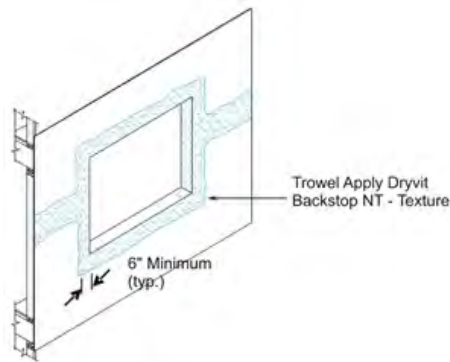

Figure 9
- 2) Using a stainless steel trowel apply Backstop NT – Texture over the Grid Tape extending to the inside face of the opening and onto the face of the exterior sheathing a minimum of 152 mm (6 in) – Figure 9.